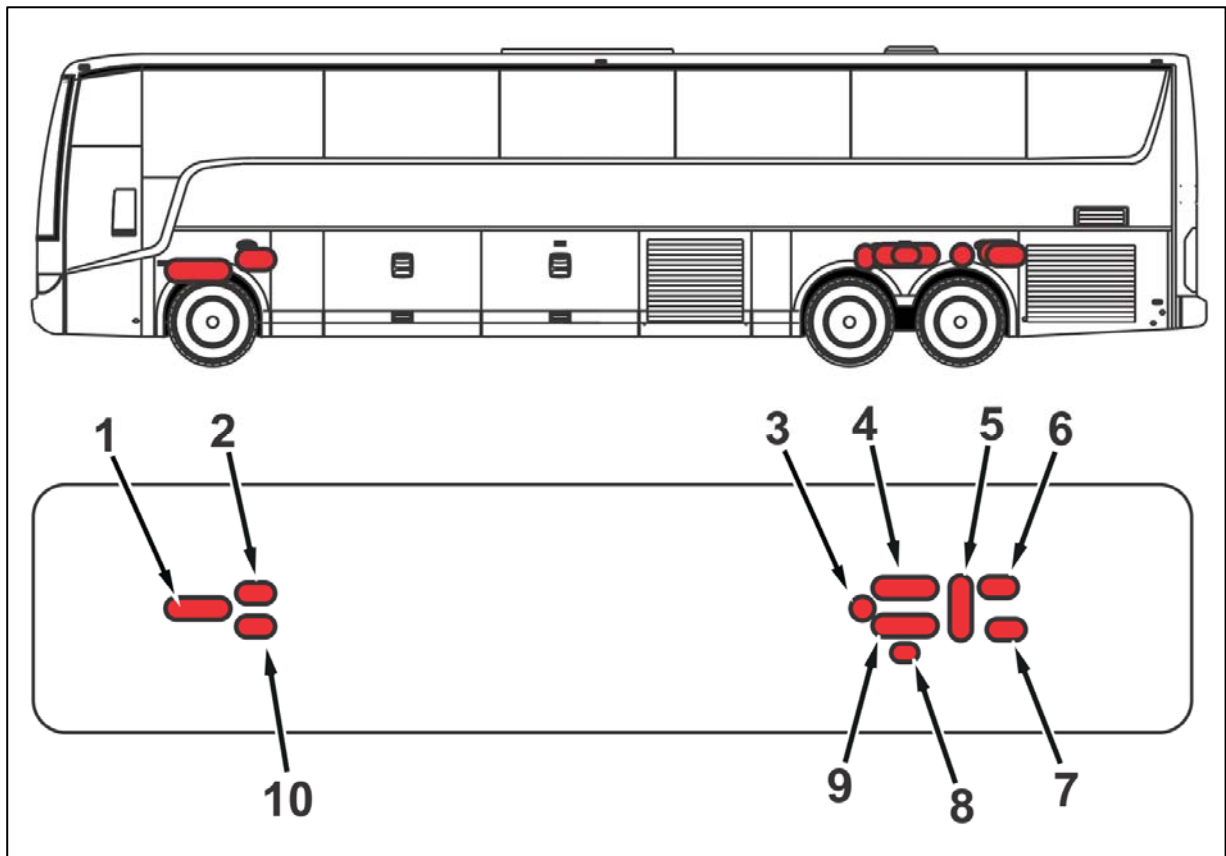

Figure 9: Location of compressed-air tank on TX..
3.2	<p> WARNING! Use appropriate hearing protection while draining the air tanks.</p> <p>Completely drain the entire air system by using the drain cocks on the air tanks. Refer to figure 9 at the end of this service bulletin for air tanks location.</p>  <p>Figure 5: Compressed-air tank drain cock, previous model</p> <p>1. Closed 2. Open</p>